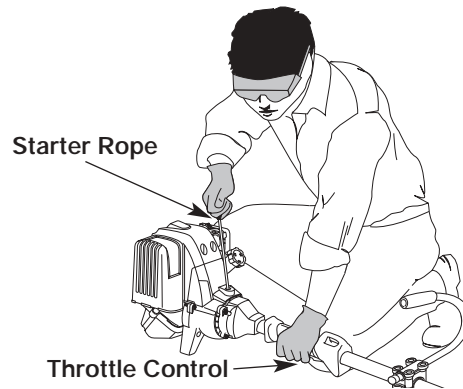

Figure 13
WARNING: Avoid accidental starting. Make sure you are in the starting position when pulling the starter rope. See Figure 13. To avoid serious injury, the operator and unit must be in a stable position while starting.
5. With the unit in the starting position, pull the starter rope briskly until the engine starts. See Figure 13.
6. When the engine starts, move the choke lever to the **RUN (C)** |—| position, and run at full throttle for 30 seconds.
1. Release your hand from the throttle control. See Figure 13. Allow the engine to cool down by idling.